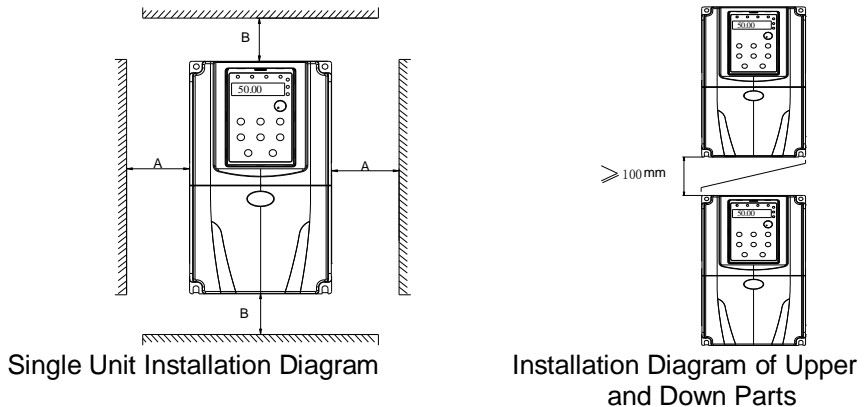

Figure 3-1 Installation Diagram
- 1) Install the inverter vertically so that the heat may be expelled from the top. However, the equipment cannot be installed upside down. If there are multiple inverters, parallel installation is a better choice. In applications where the upper and lower inverters need to be installed, please refer to Figure 3-1 “Installation Diagram” and install an insulating splitter.
- 2) The mounting space should be as indicated as Figure 3-1, so as to ensure the heat dissipation space of the inverter. However, the heat dissipation of other devices in the cabinet should also be taken into account.